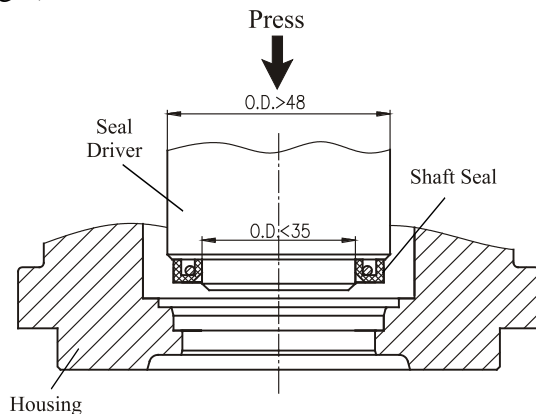

Fig.6
1. Place lubricated shaft seal (5 bar) in the housing and firmly push with Seal driver (see Fig.6).